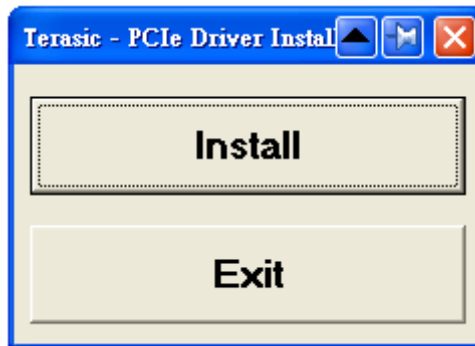

Figure 7-9 PCIe Driver Installation Program
2. Double click the “PCIe_DriverInstall.exe” executable file to launch the installation program shown in Figure 7-9.